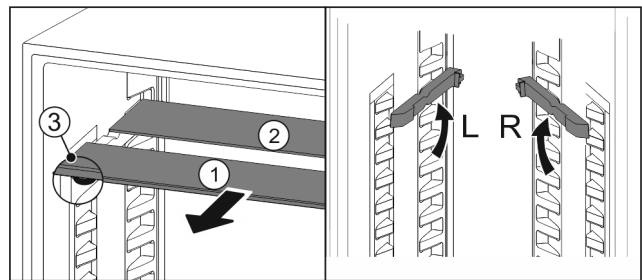

Fig. 23
- ▶ Pull the glass panels out Fig. 23 (1) from the front, one at a time.
- ▷ The glass panel Fig. 23 (1) and trim strip are at the front.
- ▷ The stops Fig. 23 (3) point down.